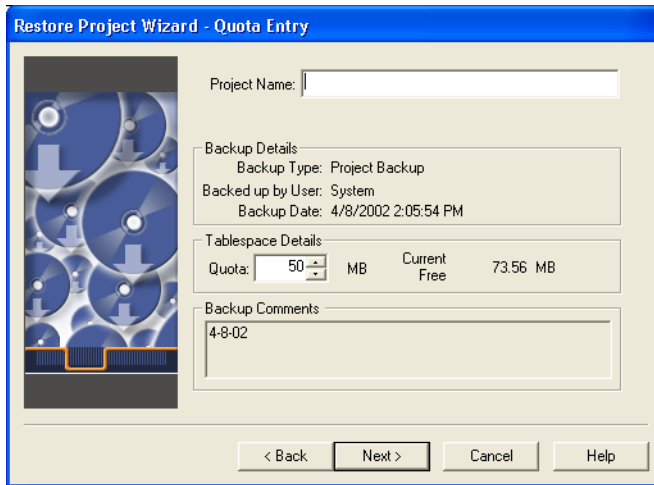

Figure 8-6 Restore Project Wizard–Quota Entry Page
3. In the text box, enter the full path name of the location where your backed up data resides. Alternatively, click the **Browse** button and use the Browse for Folder dialog box to locate the appropriate directory structure. Click **Next**. The Quota Entry page appears (Figure 8-6).